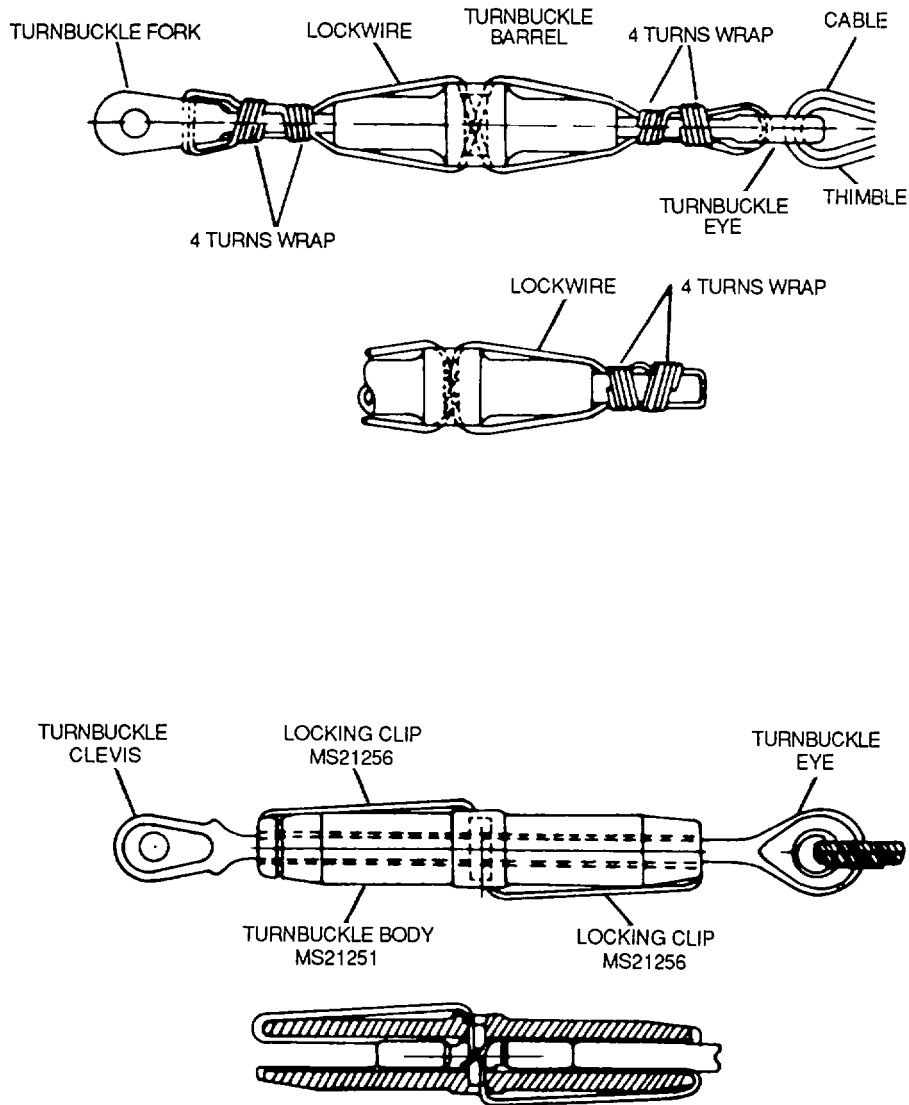

Figure 2-80. Typical Turnbuckle Assemblies
(1) Use a 0.020-inch diameter copper wire when emergency devices such as canopies, exits, and the like require servicing.
(2) Use a 0.020-inch diameter copper wire to secure nonstructural parts such as emergency valves, oxygen regulators, and the like.
(3) Secure first aid kits in accordance with TM 1-1500-204-23-1.
(4) Secure items requiring seal wire to ensure completeness of contents or to determine when contents have been used with 0.020-inch diameter copper wire. Seal with a lead seal.
f. Lockwiring Turnbuckles. The standard procedure for securing turnbuckles is shown in figure 2-80. Employ this procedure when lockwire replacement is required on turnbuckles secured by other methods. Use wire sizes specified as follows: 0.032-inch diameter on assemblies where cable diameter is 1/16-inch, 0.041-inch diameter wire on assemblies where cable diameter is 3/32-, 1/8- or 3/16-inch, and 0.047-inch diameter wire on assemblies where cable diameter is greater than 3/16-inch.